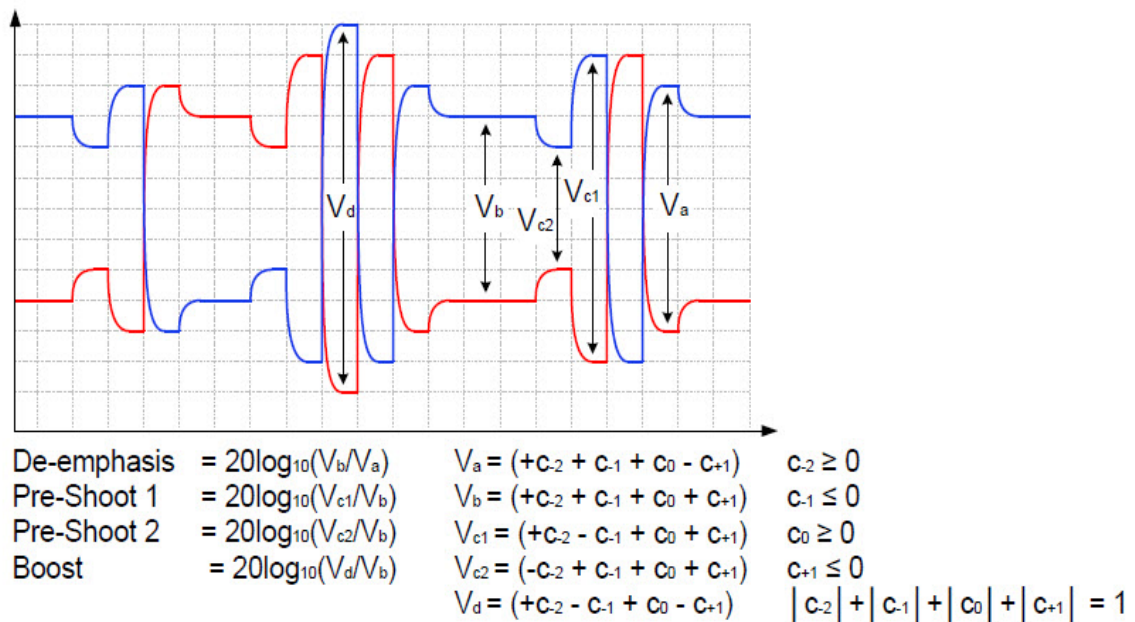

Figure 19 Waveform measurement points for preshoot and de-emphasis
64.0 GT/s PCIe signaling must support the full range of presets given in Table 8-2 (PCIe Base Specification Revision 6.0). Presets are defined in terms of ratios, relating the pre-cursor and post-cursor equalization voltages. The pre-cursor (V_c) is referred to as pre-shoot, while the post-cursor (V_b) is referred to as de-emphasis. This convention permits the specification to retain the existing 2.5 GT/s and 5.0 GT/s definitions for Tx equalization, where only de-emphasis is defined, and it allows preshoot and de-emphasis to be defined such that each is independent of the other. The tolerances in Table 8-1 (PCIe Base Specification Revision 6.0) also apply to 2.5 and 5.0 GT/s de-emphasis. The maximum swing, V_d , is also shown to illustrate that, when both c_{+1} and c_{-1} are nonzero, the swing of V_a does not reach the maximum as defined by V_d . The high frequency nature of PCIe signaling makes measurement of single UI pulse heights impractical. Consequently all amplitude measurements are made with low frequency waveforms as shown in Figure 19.
- 13 Computes their equalization voltages by using Matlab, and then calculates equalization ratios by using the formulae stated in Figure 19 (Figure 8-6 of the spec).